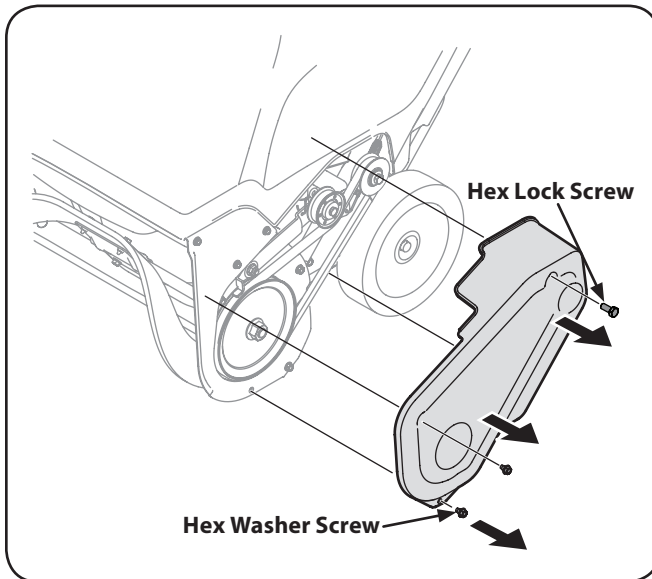

Figure 7-1
4. Remove the belt cover by removing the two hex washer screws and one hex lock screw that secure it to the frame. See Figure 7-1.